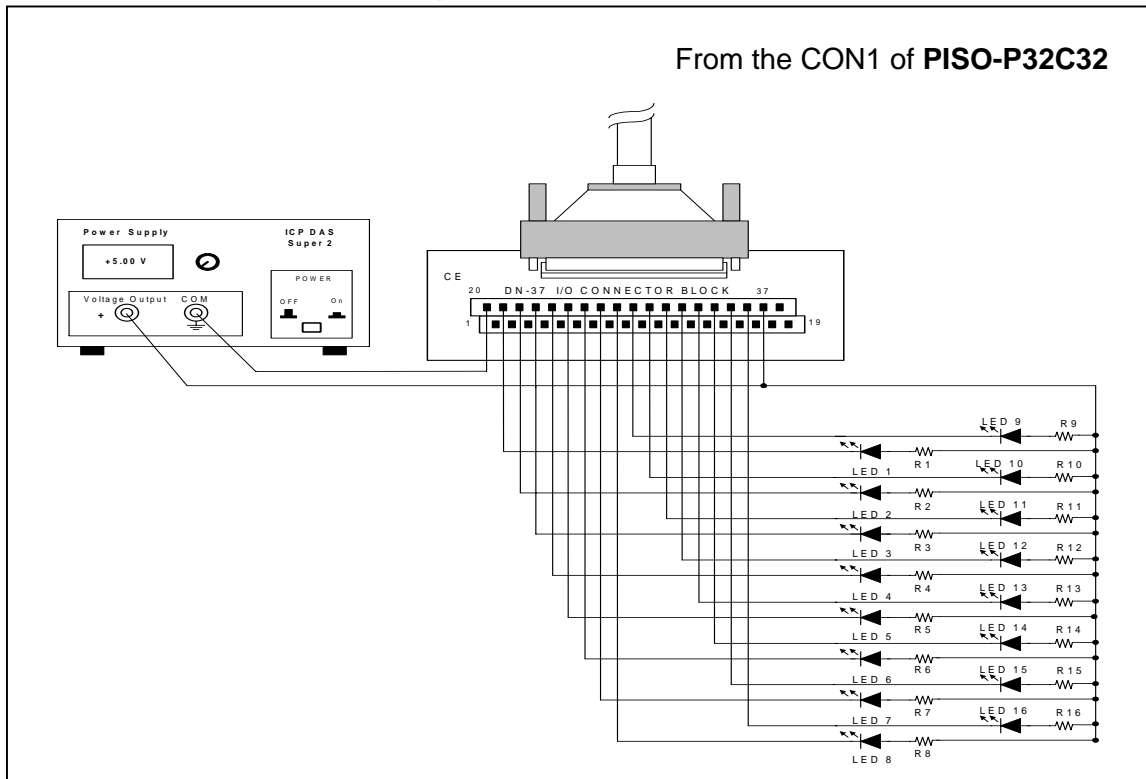

Figure 4-1-2. The circuit diagram of external device 1 for the digital outputs of PISO-P32C32
- Figure 4-1-2(PISO-P32C32) shows the circuit diagram of external device 1